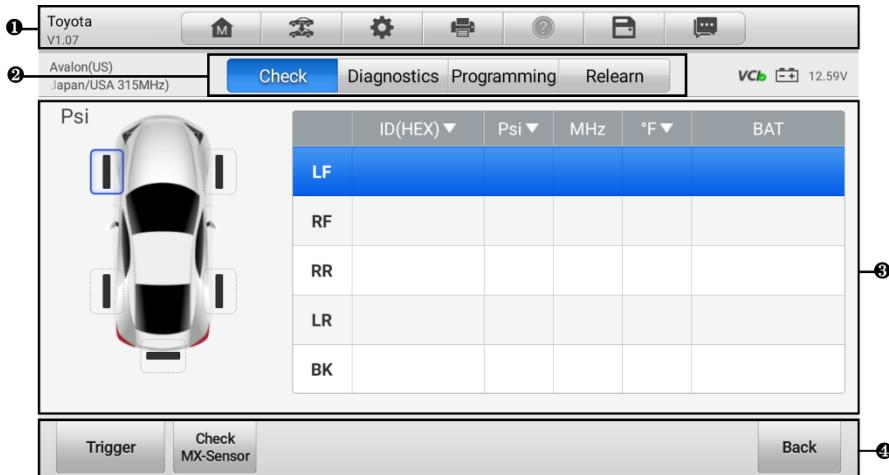

Figure 4-14 TPMS Service Screen
5. The TPMS Service screen will display. See Figure 4-14 TPMS Service Screen.
6. After confirming the vehicle information, tap **OK** to enter the TPMS Service screen. See Figure 4-14 TPMS Service Screen.
7. Follow the on-screen instructions to complete the operation and advance to the TPMS Service screen. See *Figure 4-14 TPMS Service Screen*.
5. Follow the on-screen instructions to confirm the vehicle information and finally enter the TPMS Service screen. See Figure 4-14 TPMS Service Screen.